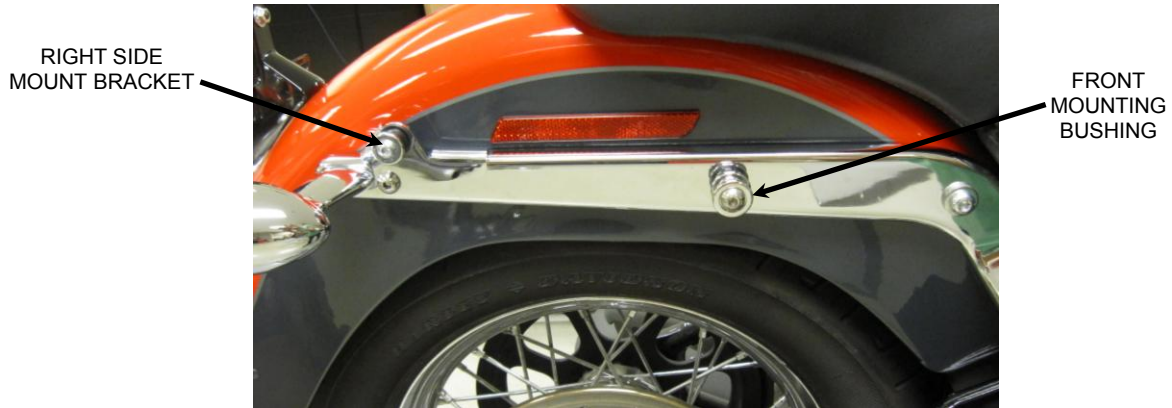

FIGURE 2
2. Install the front mounting bushing into the front hole using the supplied 3/8"-16 x 1-3/4" long buttonhead bolt and tighten bolt securely. See **FIGURE 2**.
4. Install the right rear mount bracket into the rear hole using the supplied 3/8"-16 x 1" long buttonhead bolt and tighten bolt securely. See **FIGURE 2**.